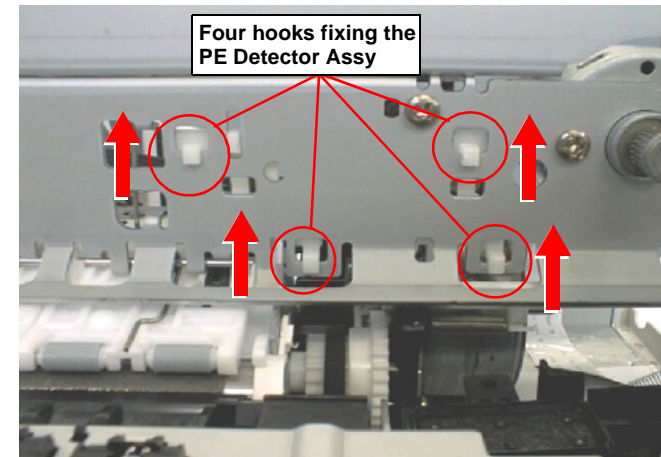

Figure 4-62. Removing the PE Detector Assembly
- 7) Release four fixed hooks securing the PE Detector Assembly from the front and sliding it upward. Refer to Figure 4-62.